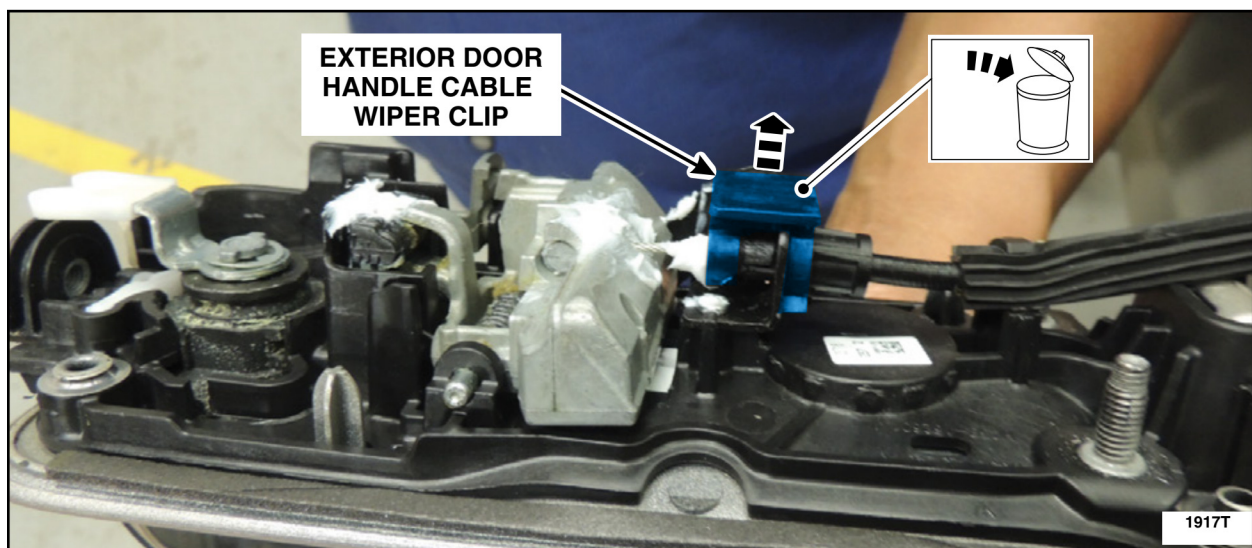

FIGURE 2
2. If a cable wiper clip is present on the exterior door handle cable end, remove and discard the cable wiper clip. See Figure 2.